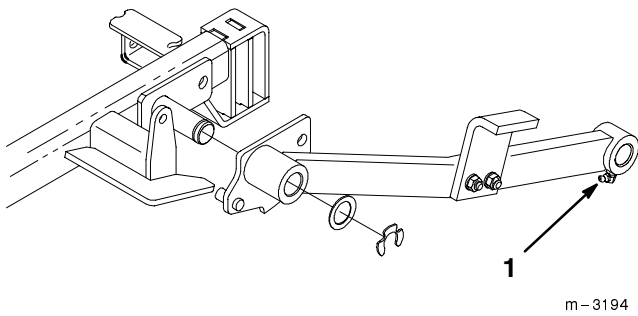

Figure 33
2. Grease the fittings on push arms (Fig. 33).